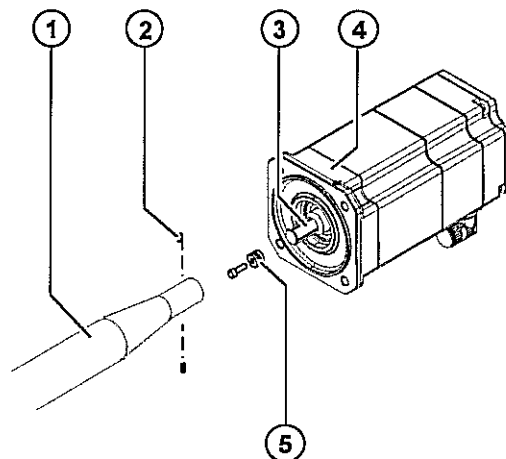

Fig. 12-10: Motor with connecting shaft
7. Slacken both setscrews (>>> Fig. 12-10) until the connecting shaft can be pulled off the toothing, and pull off the connecting shaft.